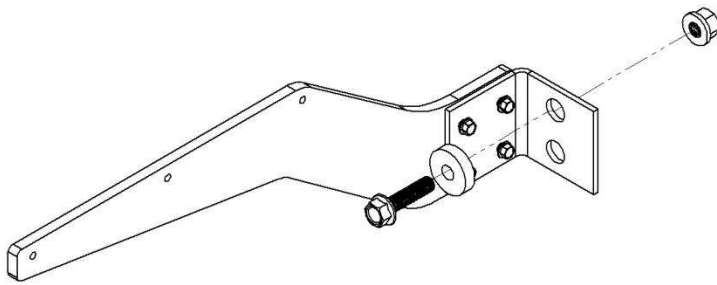

Figure 6
D. Install center bracket assembly (Figure 6).